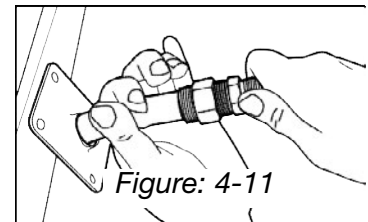
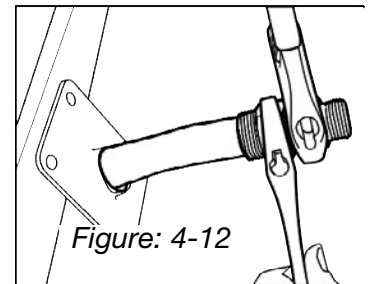
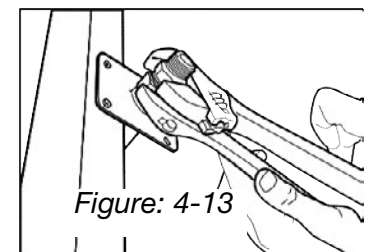

Figure: 4-11
Figure: 4-12
Figure: 4-13
- B. **PIPE TO FITTING CONNECTION:** Attach fitting to pipe following all instructions in step 5. Figure:4-11 Once the fitting has been tightened to the pipe, slightly loosen this connection until the fitting can be rotated on the pipe. Figure: 4-12 Screw the fitting on to the flange and tighten. Holding the flange fitting nut, re-tighten the body. Figure: 4-13